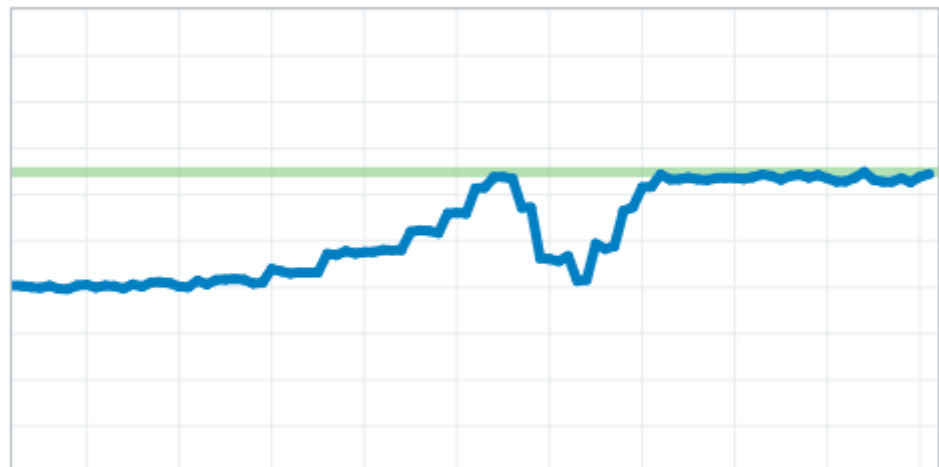

Figure 12: Camera focus curve
- ✓ The **Camera focus** curve (see figure 12) shows the analyzed quality in the focus region with a blue line. The green line shows the highest and best value acquired.